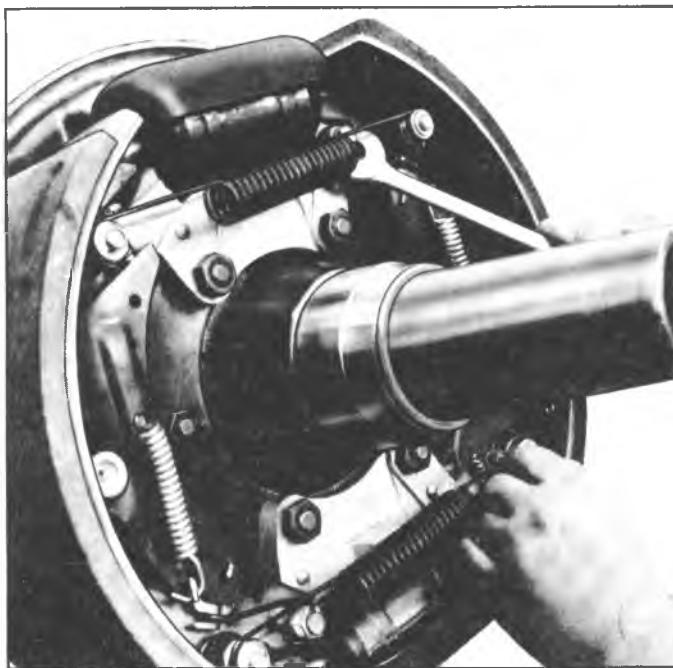

Fig. 84--Positioning Actuator Lever
**NOTE:** To determine .020" to .039", turn the adjusting screw 2 full turns out from the fully retracted position. Hold a .060" plug gauge (from J-9789-01 Universal Carburetor Gauge Set) at a 90° angle with the star wheel edge of the actuating lever. Turn the adjusting cam until the actuating lever and threaded area on the adjusting screw just touch the gauge (figs. 84 and 85).